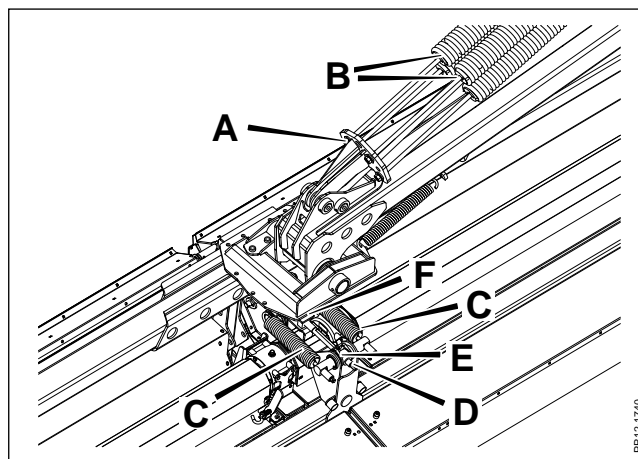

Fig. 3-10
**Fig. 3-10** The mower has continuous adjustment of the stubble height which is adjusted with spindle **D** at the middle of each cutting unit. Before the spindle is turned with the supplied all-purpose handle, the stubble height lock **E** must be tipped backwards. It may be necessary to turn the spindle a little in order to release the lock. On the scale **F** the stubble height can be seen continuously. Both cutting units must have the same value. When the adjustment has been finished the stubble height lock **E** is tipped back.